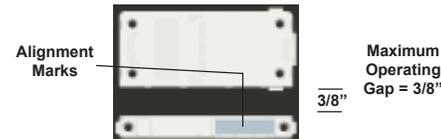

Figure 2. ELK-6021 Mounting Gap and Alignment
3. **Observe correct polarity** when installing the new battery (see Fig 2). Do not bend or damage the metal battery holder leads. Approved Batteries: 3V Lithium - CR2032